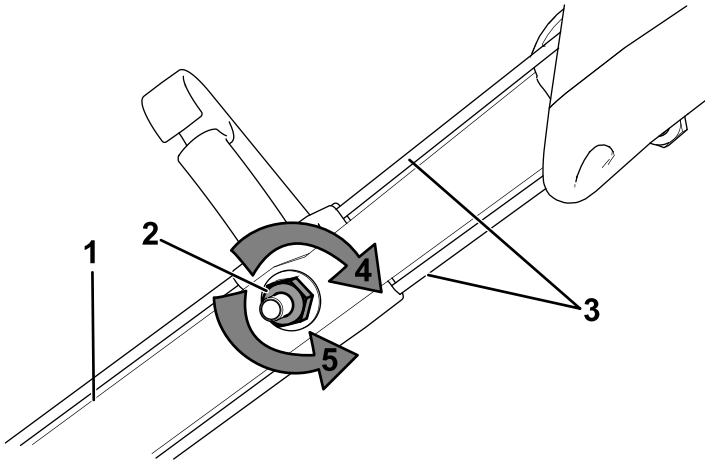

Figure 26
1. Turn the adjustment nut counterclockwise to loosen the cable adjustments (Figure 26).
2. Adjust the tension on the cables (Figure 26) by pulling them back or pushing them forward and holding that position.